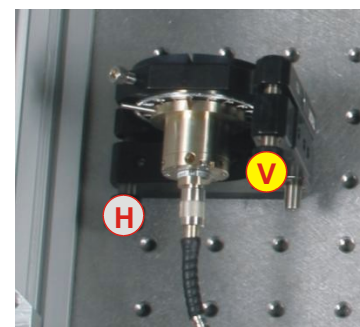

Fig. 2.4: Adjustment of the fiber out coupler using horizontal and vertical dials.
11. **This alignment is only performed for the first laser you want to align.** Adjust the vertical **V** and horizontal **H** alignment of the **Fiber Coupler Out** for maximal intensity viewed with the Time Trace (Fig. 2.4). Turn the screws slowly and do not lose the signal on the oscilloscope time trace window.